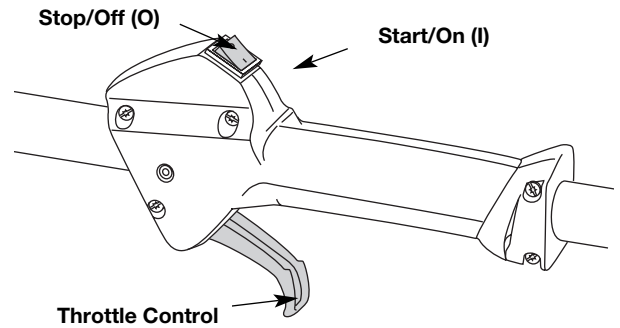

Fig. 11
3. Make sure the On/Off Stop Control in the ON (I) position (Fig. 11).